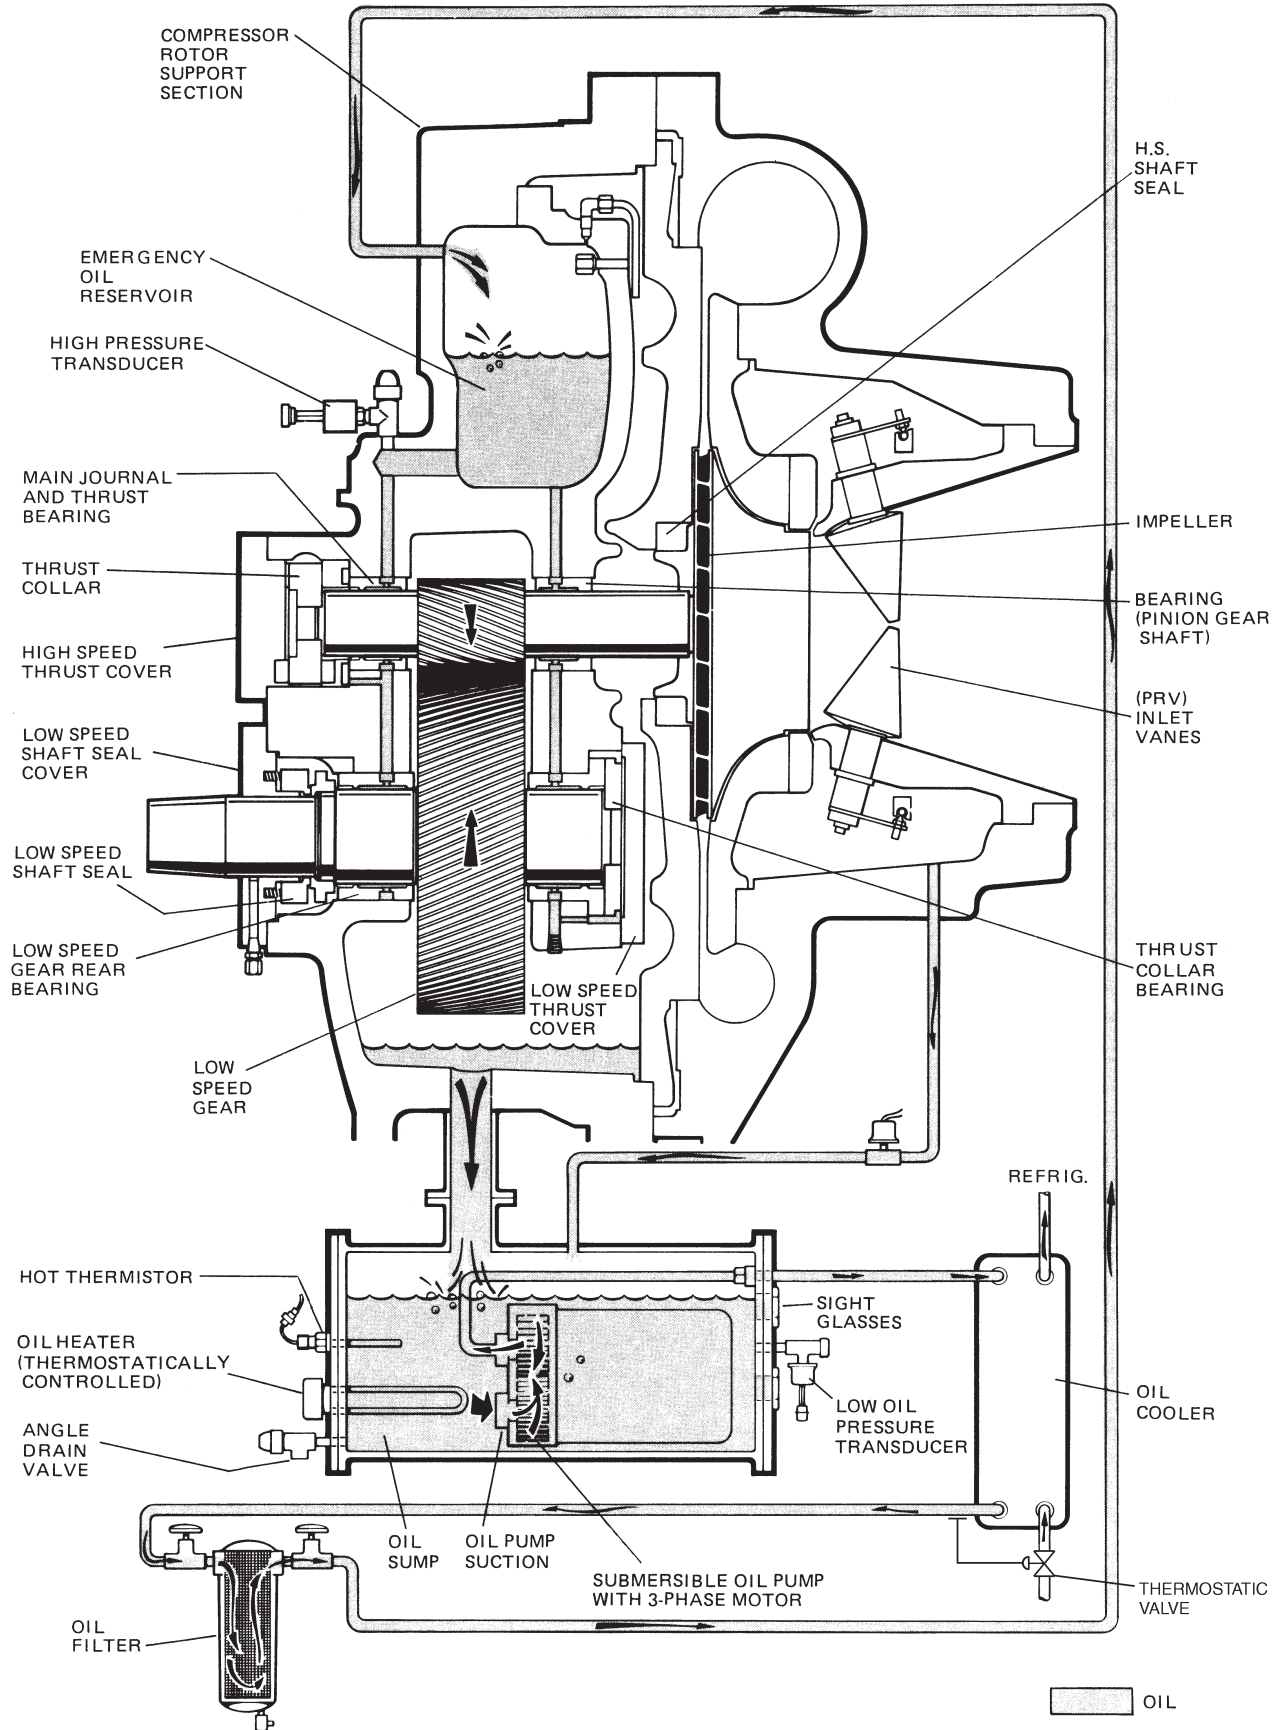

Figure 2.4 Compressor Lubrication System
2.4 Compressor Lubrication System (Figure 2.4)